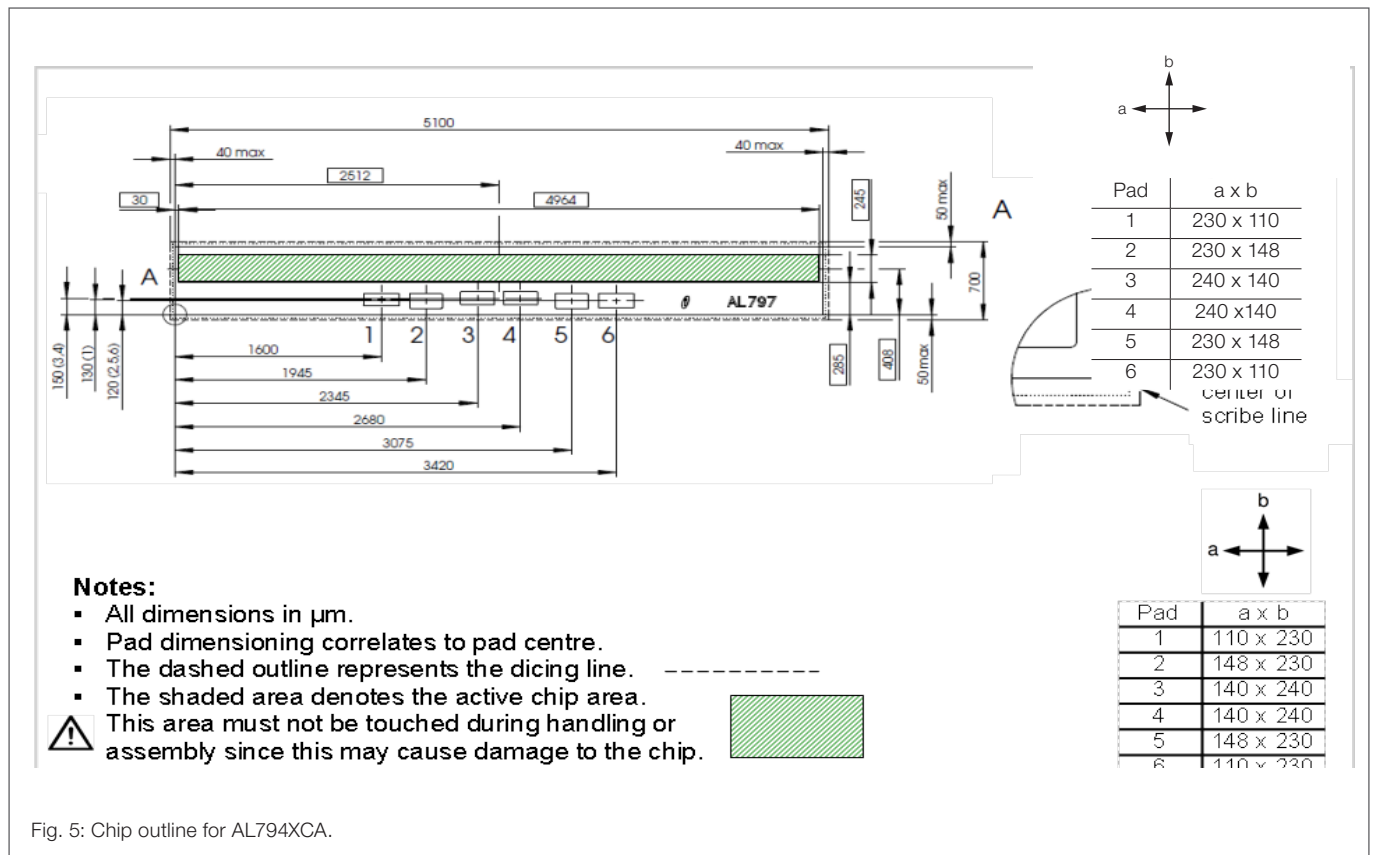

Fig. 5: Chip outline for AL794XCA.
1) Tolerances of chip size see Fig. 5.